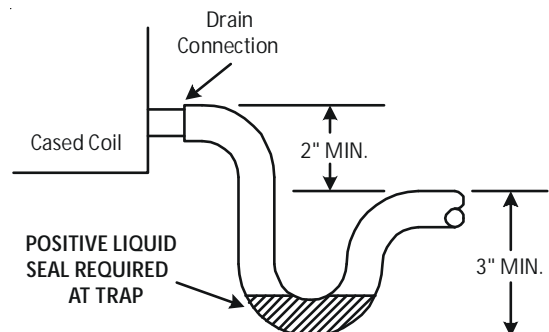

Figure 13
- The installation must include a “P” style trap that is located as close as a practical to the evaporator coil. See Figure 13 for details of a typical condensate line “P” trap.